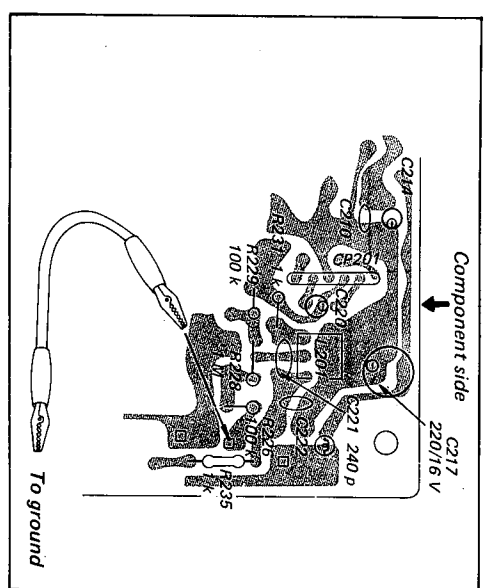

Fig. 3-1. Interruption of AFC circuit.
1. Short the AFC circuit to ground as shown in Fig. 3-1.
Short the AFC circuit to ground as shown in Fig. 3-1.
Short the AFC circuit to ground as shown in Fig. 3-1 on Page 9.